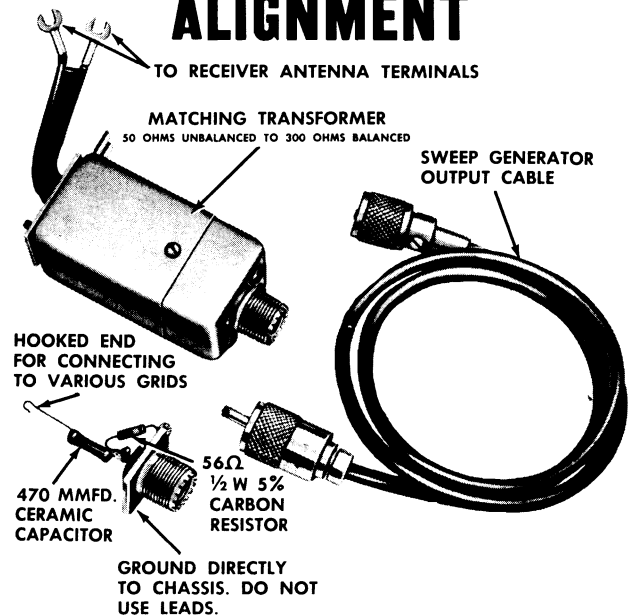
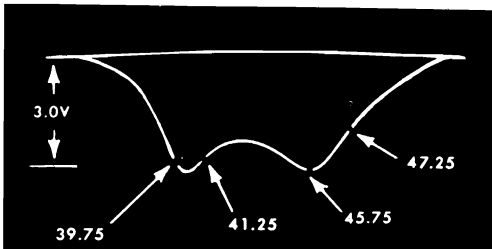

Fig. 4 IF-RF Alignment Fixtures
Fig. 5 4th IF Response
3. Feed the sweep generator through the special terminating network shown in Fig. 4 to point "G" (Pin 1 of the 3rd IF). Adjust generator to obtain a response similar to Fig. 5 with a detector output of 3 volts peak to peak. Do not exceed this level during any of the adjustments.
4. Set the marker generator to 45.75 Mc and alternately adjust the top and bottom cores of the 4th IF for maximum gain and symmetry with the 45.75 Mc marker positioned as shown in Fig. 5. The 39.75 Mc